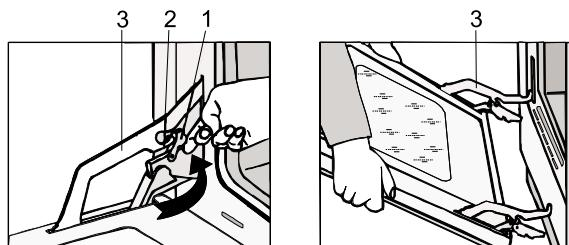

Fig. 21
- To facilitate cleaning of the oven enamel elements you can remove the oven door (fig. 21).
- Lock hinges on both sides of the door by placing the clamping ring 1 on the catch 2 of the hinge bow 3 (fig. 21).